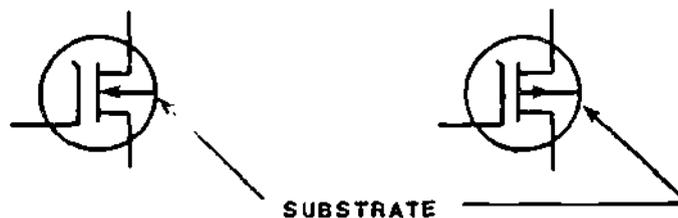

Figure 18
19. Recall that there are four elements in a MOSFET, and therefore four device leads. Figure 18 points out the substrate elements on the schematic symbols for N- and P-channel MOSFETs.